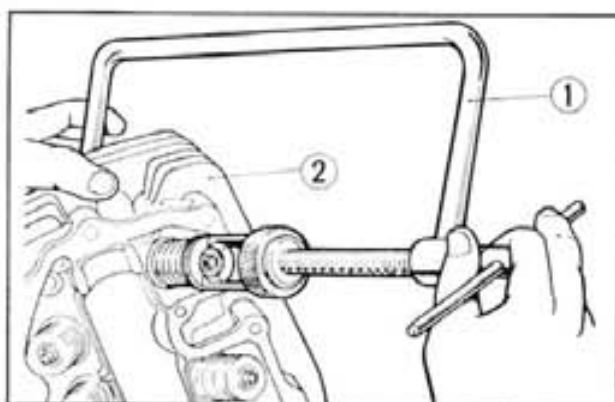

Fig. 3-46 ① Valve lifter
2. Disassemble the cylinder head using the valve remover (Tool No. 07031-30001 and 07031-30010) and disassemble the following parts: cotter, retainer, valve spring (both inlet and exhaust), valve stem seal, spring seat in the order. (Fig. 3-46)